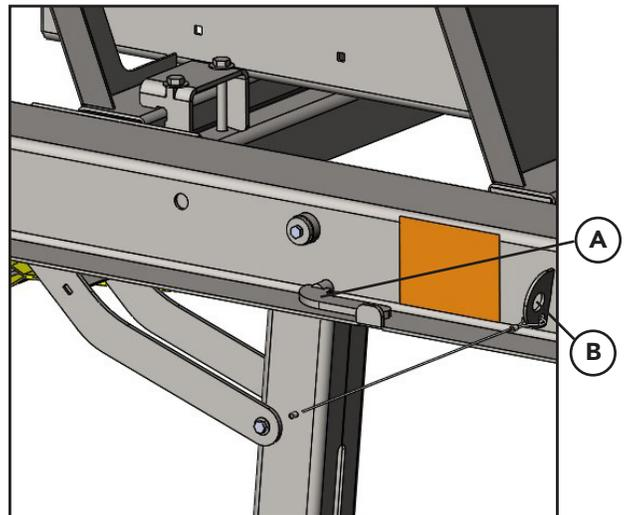

Figure 3 - Leg Support Lock Pin
- Figure 3 - Remove front leg locking pins (A). Store front leg locking pins in hole (B).